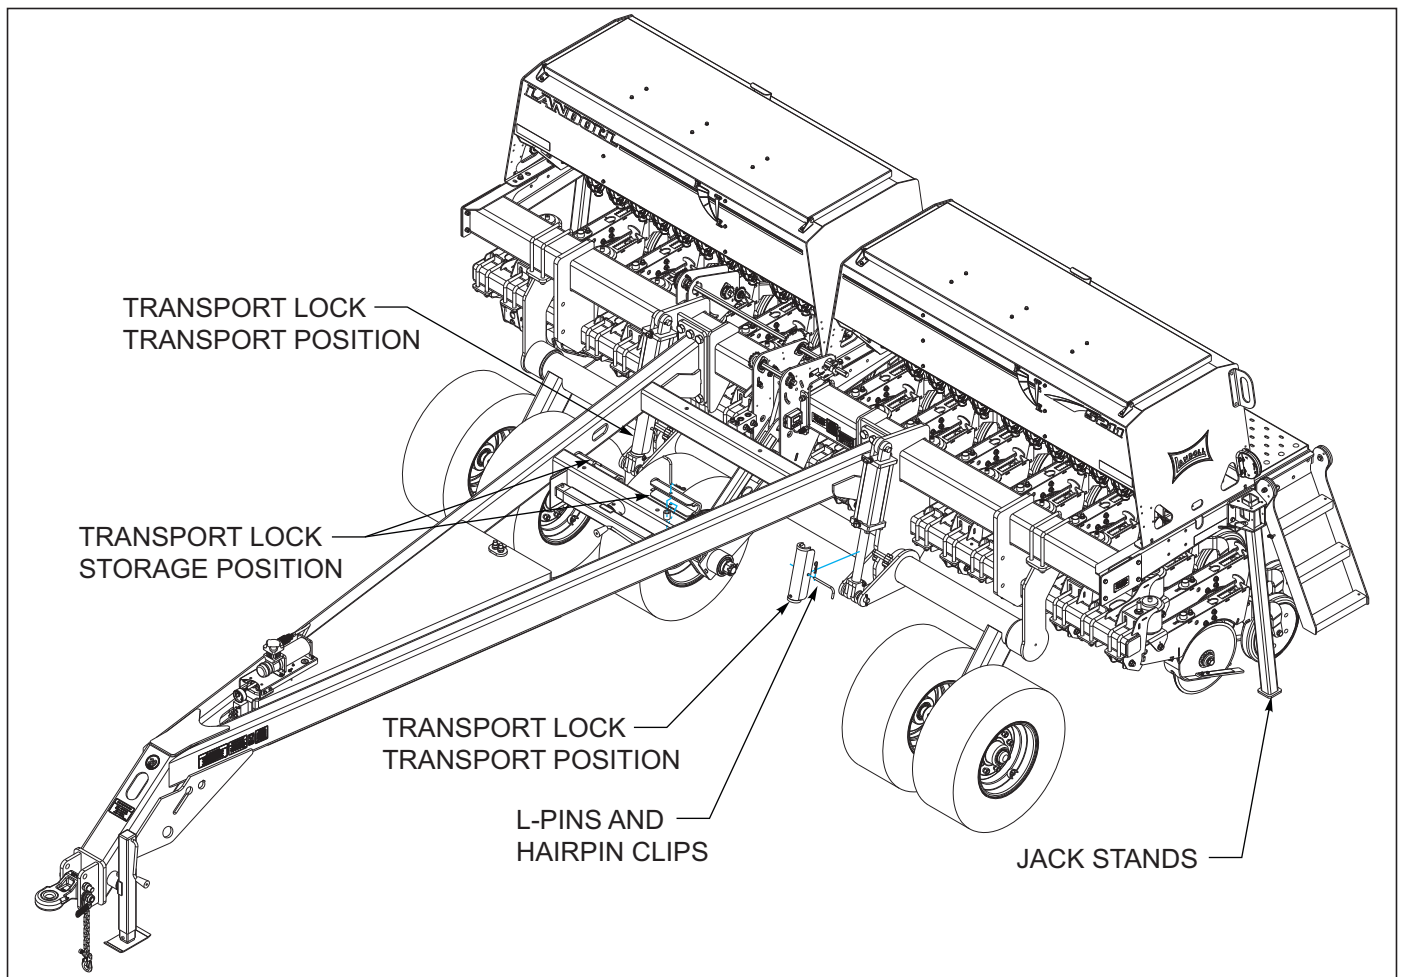

Figure 4-2: Storage & Transport Position of Transport Locks
2. The transport locks are installed on the holders located on the hitch when not in use *See Figure 4-2*. To install the transport locks:
6. To remove the transport locks *See Figure 4-2*: